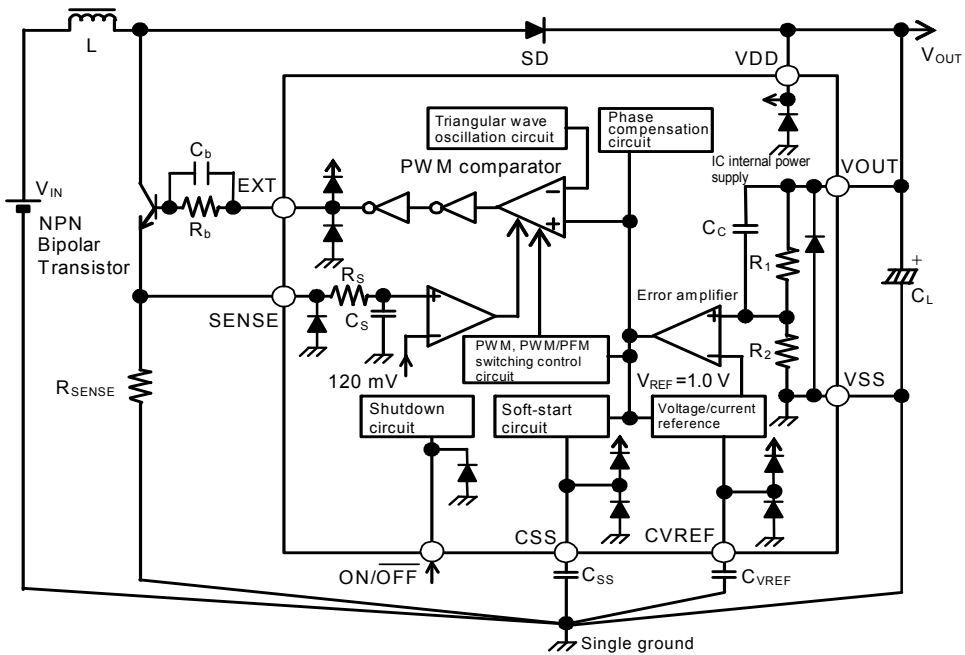

Figure 16 Output Voltage Fixed Output Type
Figures 16 and 17 in “■ Standard Circuits (2) Using Bipolar Transistors” show sample circuit diagrams using Sanyo Electric Co., Ltd. 2SD1628G for the bipolar transistor (NPN). The driveability for increasing the output current by means of a bipolar transistor depend on the h_{FE} and R_b values of that bipolar transistor.
In addition, if a speed-up capacitor (C_b) is inserted in parallel with the resistance (R_b) as shown in **Figures 16 and 17**, the switching loss will be reduced, leading to a higher efficiency.